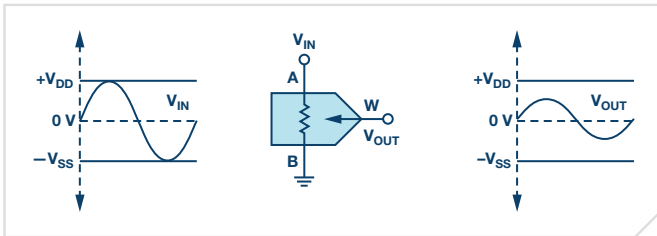

Figure 8. AC signal, dual-supply mode.
- ▶ Dual-supply:  $\pm 2.25$  V to  $\pm 16.5$  V (see Figure 8)